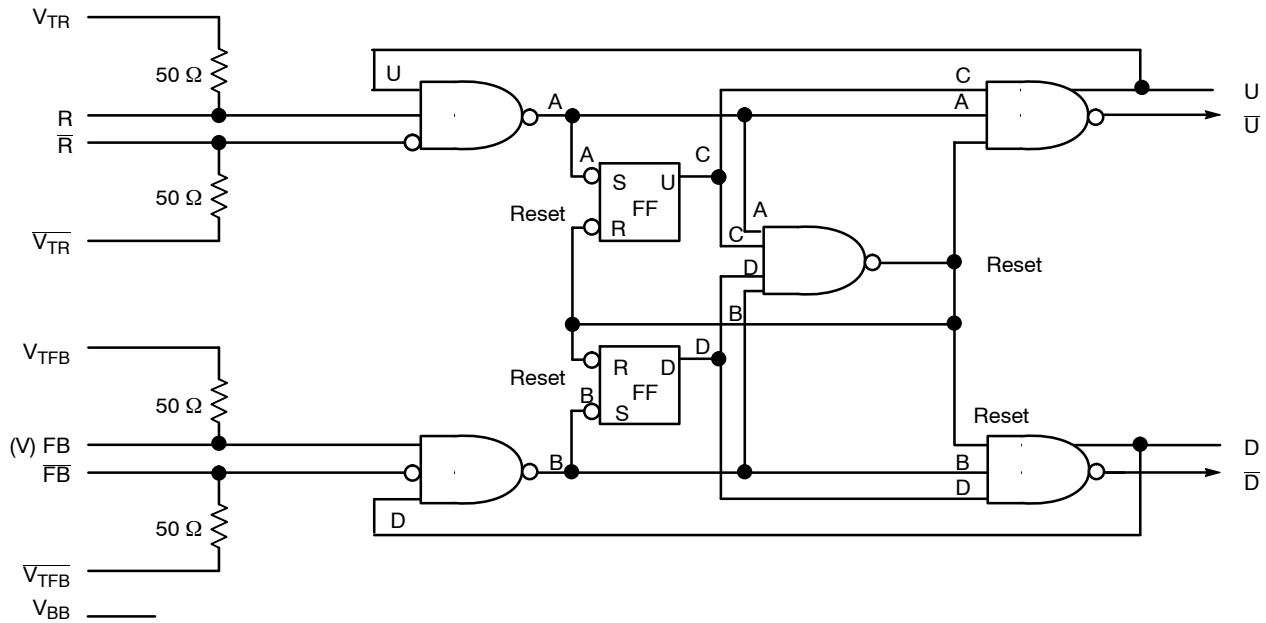

Figure 2. Logic Diagram
When Reference (R) and Feedback (FB) inputs are 80 ps or less in phase difference, the Phase Lock Detect pin will indicate lock by a high state (VOH). The VTX (VTR, VTR, VTFB, VTFB) pins offer an internal termination network for 50 Ω line impedance environment shown in Figure 2. An external sinking supply of VCC-2 V is required on VTX pin(s). If you short the two differential pins VTR and VTR (or VTFB and VTFB) together, you provide a 100 Ω termination resistance. For more information on termination of logic devices, see AND8020.